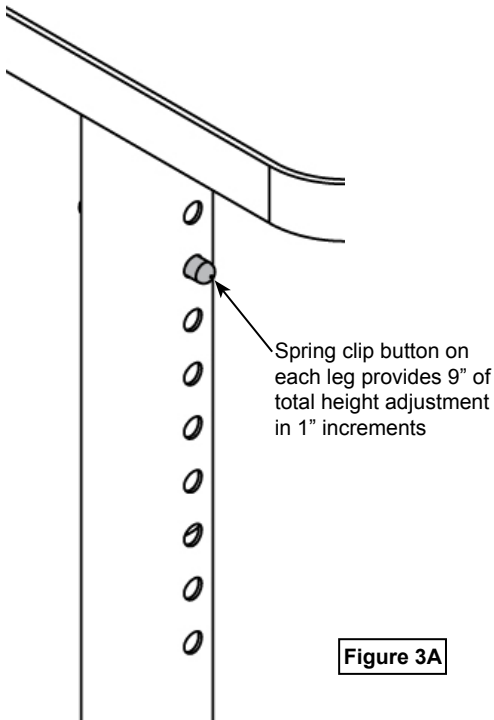

Figure 3A
- To adjust the worksurface height, press the spring clip button on one leg and raise or lower the worksurface and upper leg assembly (slightly twisting then sliding the leg after the button has been pressed will help keep it retracted until its aligned with the new hole.) **Figure 3A.** Align the spring clip button with one of the adjustment holes to lock the leg into the new position. Repeat this procedure on the other leg while making sure to use the same hole position on both legs.